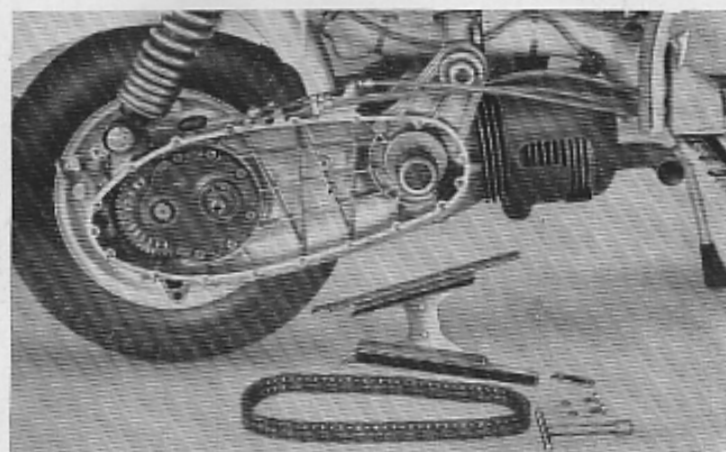

Fig. 9
- 12 To remove chain guides and chain: unscrew the two screws fixing the guide (10mm spanner) (See Fig. 9). **Bear in mind that the chain should never be washed in petrol.** Wrap chain in a clean rag for protection.